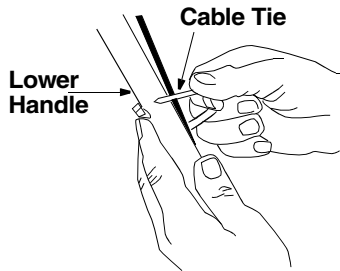

Figure 5
- Attach cables to the lower handle with the two cable ties already on the lower handle, insert pegs on cable ties into the holes on the lower handle. Pull cable ties tight and cut off the extra. See Figure 5.